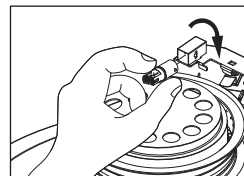

Fig.15
**To replace the igniter plug (Fig.15):**